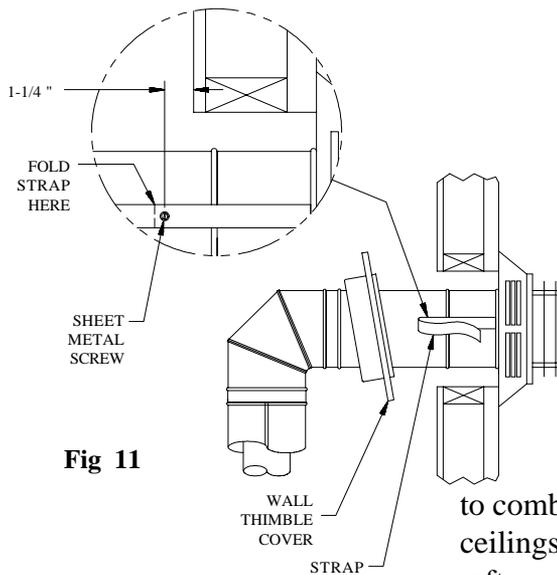

Fig 11
Step 6. Slide the appliance and vent assembly towards the wall, carefully inserting the vent pipe into the vent cap assembly. It is important that the vent pipe extend into the vent cap sufficient distance so as to result in a minimum pipe overlap of 1-1/4 inches. Secure the connection between the vent pipe and the vent cap by attaching the two sheet metal strips extending from the vent cap assembly into the outer wall of the vent pipe. Use the two sheet metal screws provided to connect the strips to the Pipe Section. Bend any remaining portion of the sheet metal strip back towards the vent cap, so it will be concealed by the Decorative Wall Thimble Cover. (Fig 11)